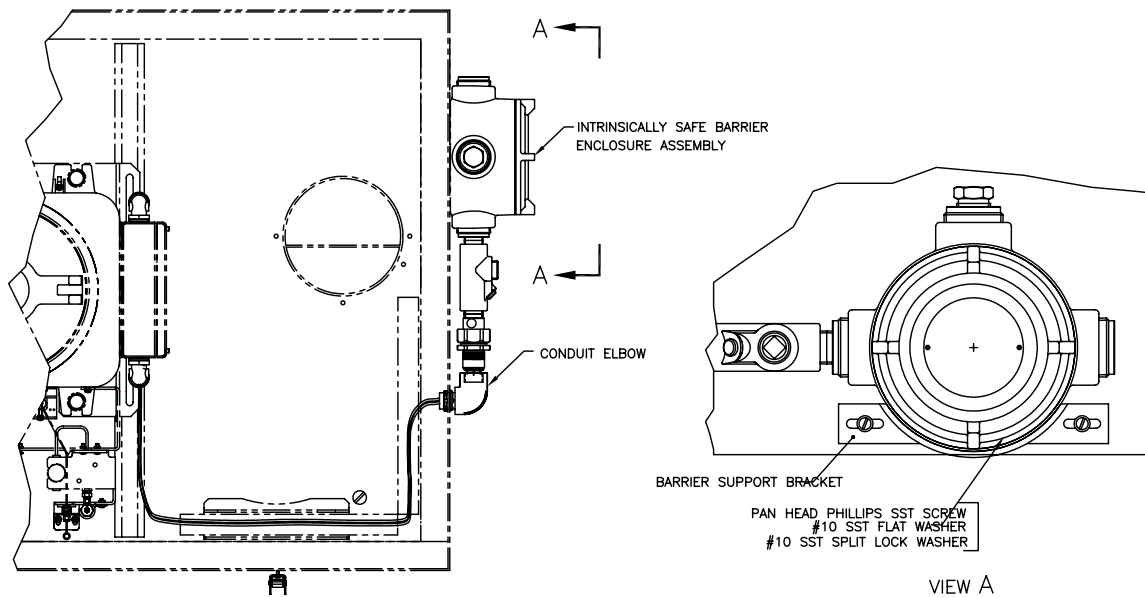

Figure 42 Barrier Support Bracket Installation
- 10) Run wires around the inside of the enclosure as shown in Figure 42.